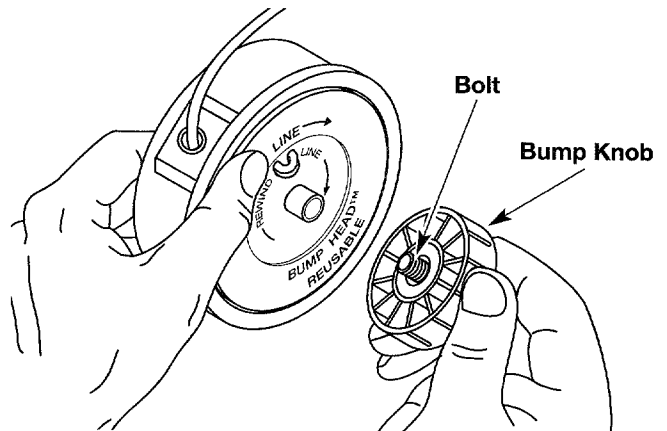

Figure 21
1. Hold the outer spool with one hand and unscrew the bump knob counterclockwise. Inspect the bolt inside the bump knob to make sure it moves freely. Replace the bump knob if damaged. See Figure 21.